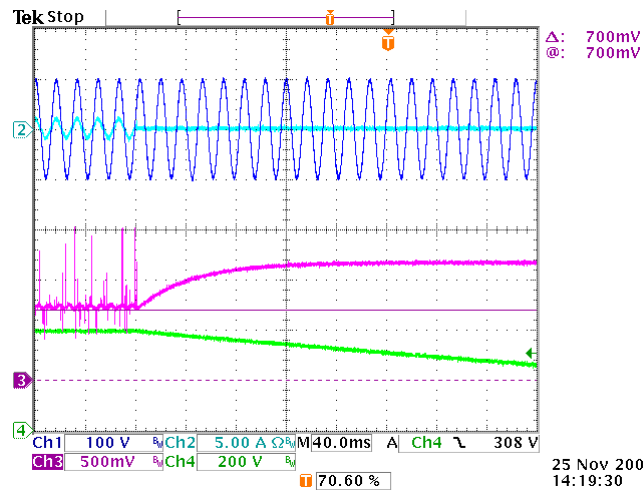

Figure 7. Brown Out Test. Decrease the input from 85 Vac slowly. Observe V_{ac} when V_{OUT} falls.
- V_{ac} should be above 60 V_{ac} (refer to Ch1 of Figure 7)